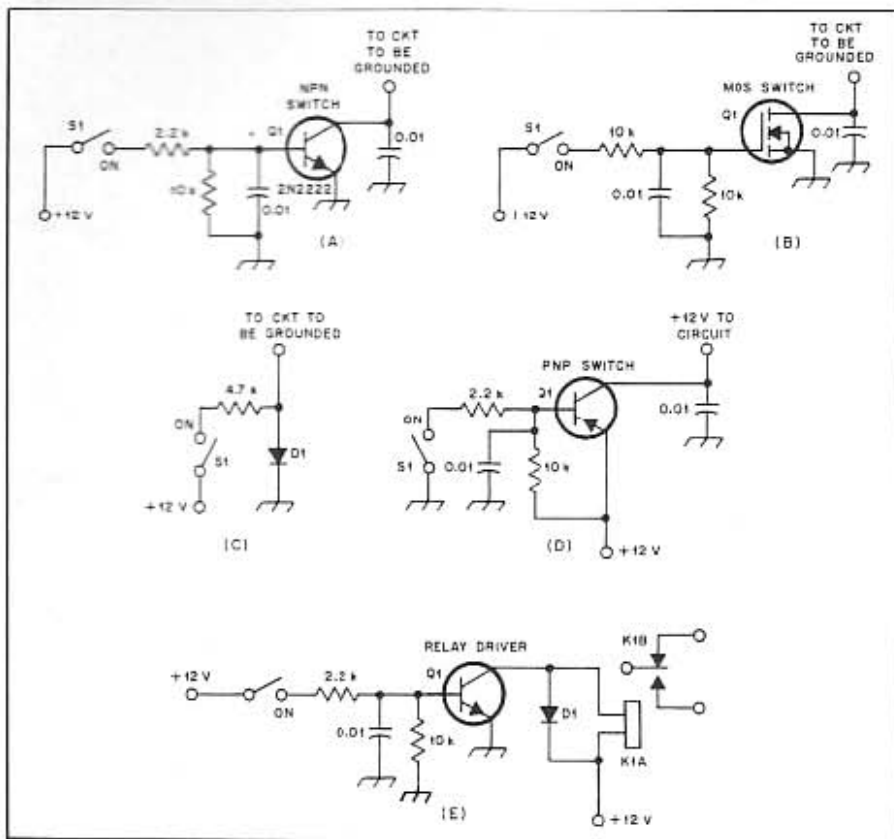

Fig. 4 — Various semiconductor switches (see text).
Our workshop project this month is shown schematically in Fig. 4. It is patterned along the lines of a broadband amplifier designed by Hayward, W7ZO1. His design did not use transformers and there was no high-level stage at the tail end of the amplifier strip, but the feedback networks are similar to his. The particulars of the general design are given in the text of *Solid State Design for the Radio Amateur*, referenced earlier in this article.
Owing to the linearity and bandwidth of the circuit in Fig. 4, it is ideal as a drop-in
Fig. 4 — A practical circuit for a broadband linear-amplifier strip. This can be used as an instrument amplifier, a low-level RF strip in a transmitter or as part of a receiving-loop preamplifier. Resistors are $\frac{1}{4}$ -W carbon-composition unless otherwise noted. The polarized capacitor is tantalum or electrolytic. All others are chip-style or disc-ceramic with short leads. T1 and T2 contain 15 primary turns of no. 28 enameled wire on an Amidon FT37-43 toroid core. The secondary windings consist of seven turns of no. 28 enameled wire. T3 uses an Amidon FT50-43 toroid core with 12 primary turns of no. 26 enameled wire. The secondary of T3 contains six turns of no. 26 wire.
Fig. 5 — Circuit-board etching pattern for the broadband amplifier of Fig. 4. The pattern is shown full size from the foil side of the board. Black areas represent unetched copper foil.
This amplifier can be used also as a preamplifier for loop antennas. A step attenuator can be inserted at the output of the amplifier to control the gain. If you choose to use this circuit in such a manner, a low-noise preamplifier should precede Q1 of Fig. 4. I find that a JFET stage is suitable for this purpose. Owing to the small signal that a receiving loop provides, the preamplifier (even at 1.8 MHz) must be a low-noise type. If not, you will enjoy listening to "pop-corn" noise along with the DX signals! Q1 does not have a low enough noise figure for satisfactory weak-signal reception.
A broadband amplifier can be built for Class A, B or C service, just as narrow-band amplifiers can. The advantage of broadband designs is, in retrospect, to obtain a wide frequency response with relatively flat gain. This helps us to design circuits that do not require band-switching provisions. In other words, it simplifies the design of a multiband transmitter. But, as an instrumentation amplifier, the circuit of Fig. 4 has a great many advantages around the workshop. Good luck with your project.
Fig. 4 contains a number of examples that show how we may use various semiconductor devices as shunt switches. S1 in each case represents a mechanical switch or CW key that turns on the electronic switch. As we learned earlier, turn-on can be effected also by other electronic switches in the overall circuit. For example, AGC voltage or rectified speech energy could be used to actuate a semiconductor switch, depending on the application for the switch; the possibilities are virtually without limit.
Circuit A of Fig. 4 is an NPN transistor switch. A positive voltage is required at the base of Q1 in order to turn it on. The 10-k Ω resistor from the base to ground is used to minimize transistor leakage current when the switch is in the OFF mode. This circuit might be used to key a driver stage in a solid-state CW transmitter. If so, the collector of Q1 would be hooked to the emitter of the keyed stage. S1 would be the CW key, or the keying line from a keyer.
A simple diode switch is shown at C of Fig. 4. To the right is a PNP transistor switch (D). The base must be grounded through the 2.2-k Ω resistor to cause turn-on. A 10-k Ω resistor is connected from base to the +12-V line to help cut off the transistor in the OFF mode. This resistor can be eliminated in the circuits of Fig. 4A, 4D and 4E if two 1N914 diodes are connected in series with the emitter leads. The diode junctions will reverse bias the transistors by approximately 1.4 V. The resistor or biasing diodes are especially important in the circuit of Fig. 4E — a relay driver. Without reverse bias, the relay may remain energized after the transistor is turned off. This is because a small amount of leakage or idling current will remain, and it may